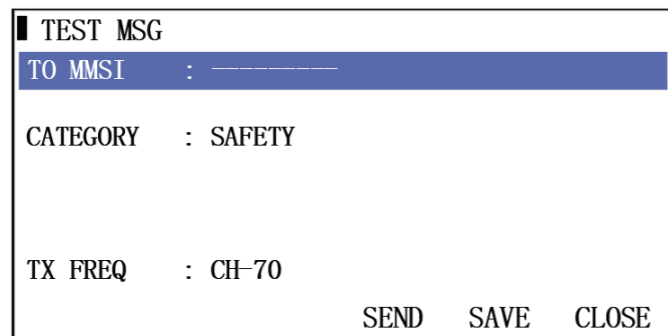

Figure5.6.1
- b: Use the channel knob to select the <TEST MSG> item, and press the [ENT] key to open the editing interface, as shown in Figure 5.6.1.